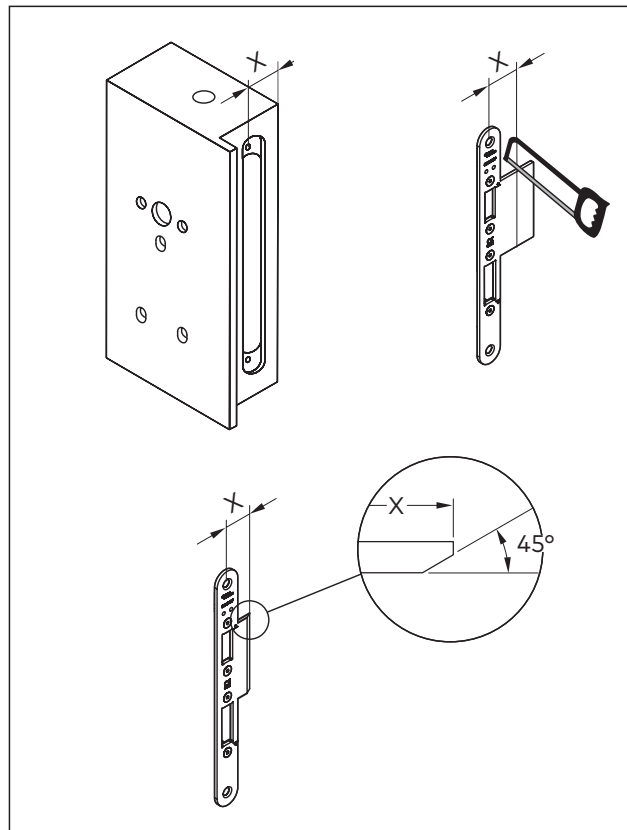

Fig. 35 Dimensions of the adjustments
1. Adjust the forend (Abb. 35).